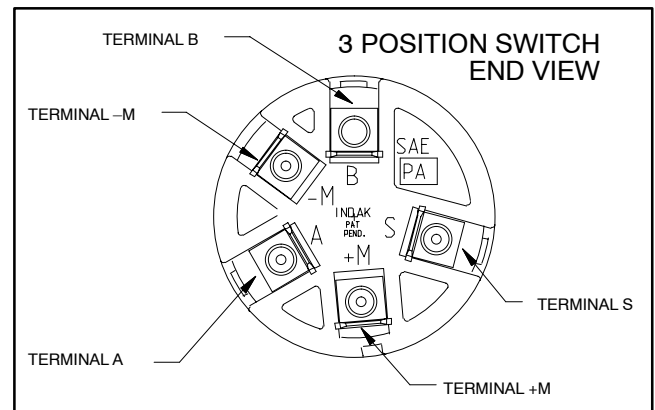

Figure 4
Later production switches had five switch terminals and three key switch positions, but only two or those positions are used (OFF and RUN). The switch terminals are marked as shown in Figure 4.
2. For 3 position switch (Fig. 4):